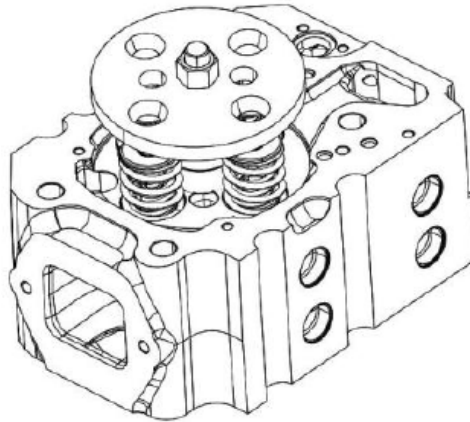

Figure 54. Valve Spring Compressor Assembly
8. Using the valve spring compressor tool, compress the valve springs (Figure 54).